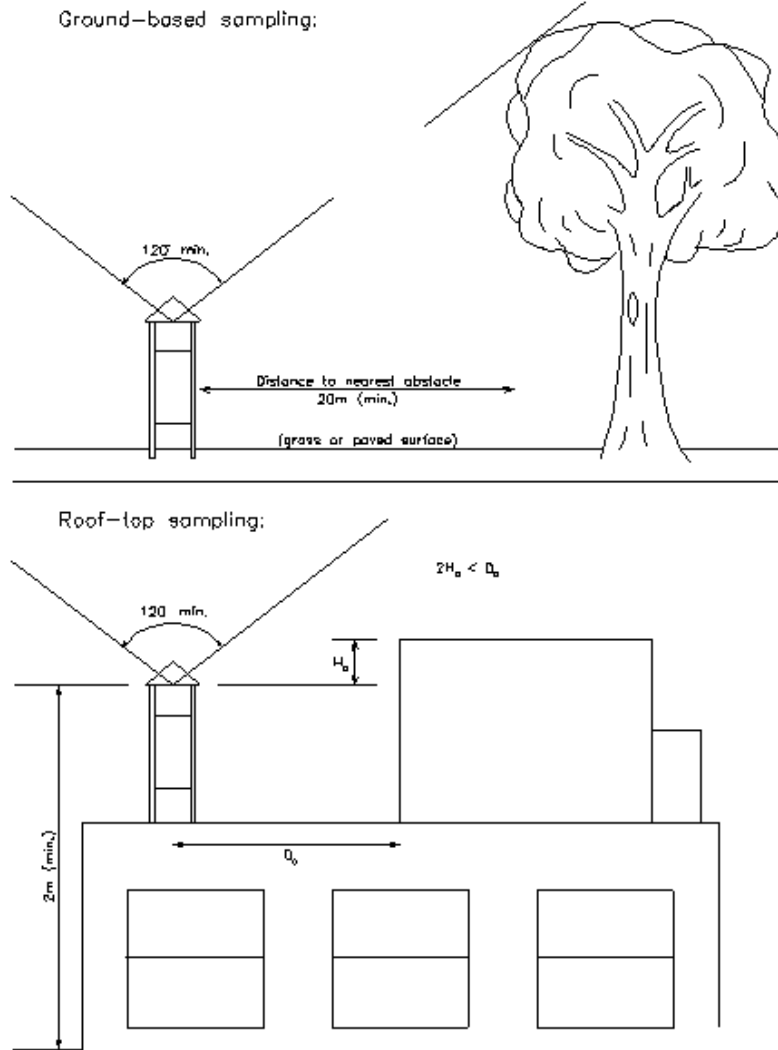

Figure 9 – Site Selection Guidelines
1. The sampler should be located in an area with unrestricted ventilation. The sampler inlet should be located well away from buildings, walls and trees. An example of some Australian Standard minimum separator requirements for obstacles are shown in Figure 9. As a general rule the sampler should be at least 20 metres from buildings, walls and trees. The sampler should be located at least twice as far from the obstacle as the height of the obstacle. The sampler inlet should also have a minimum clear sky angle above the inlet of 120°.